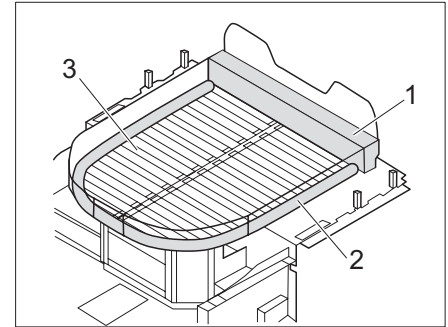

Fig. 109 Bed with mattress extension (with additional mattress and bed slats)
- Place the additional mattresses (Fig. 109,1 and 2) on the front side and around the queen size bed.
- Pull out the bed slats (Fig. 109,3).